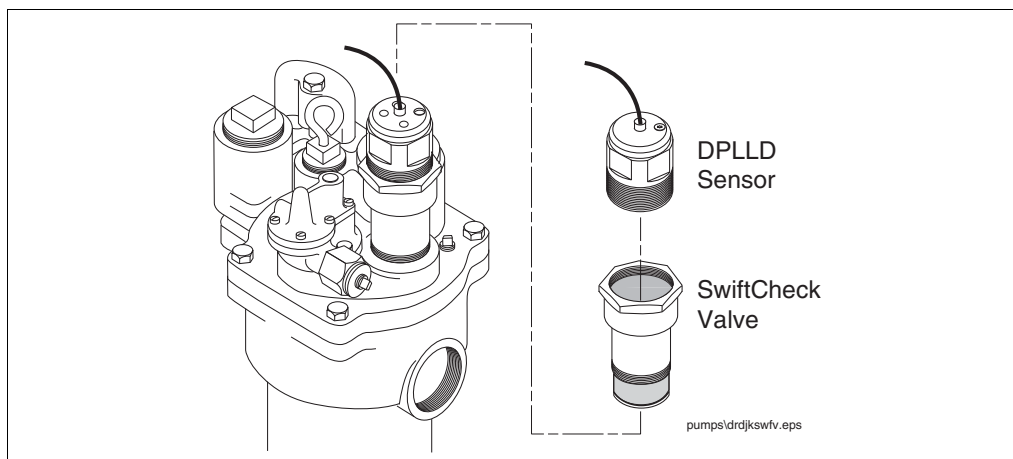
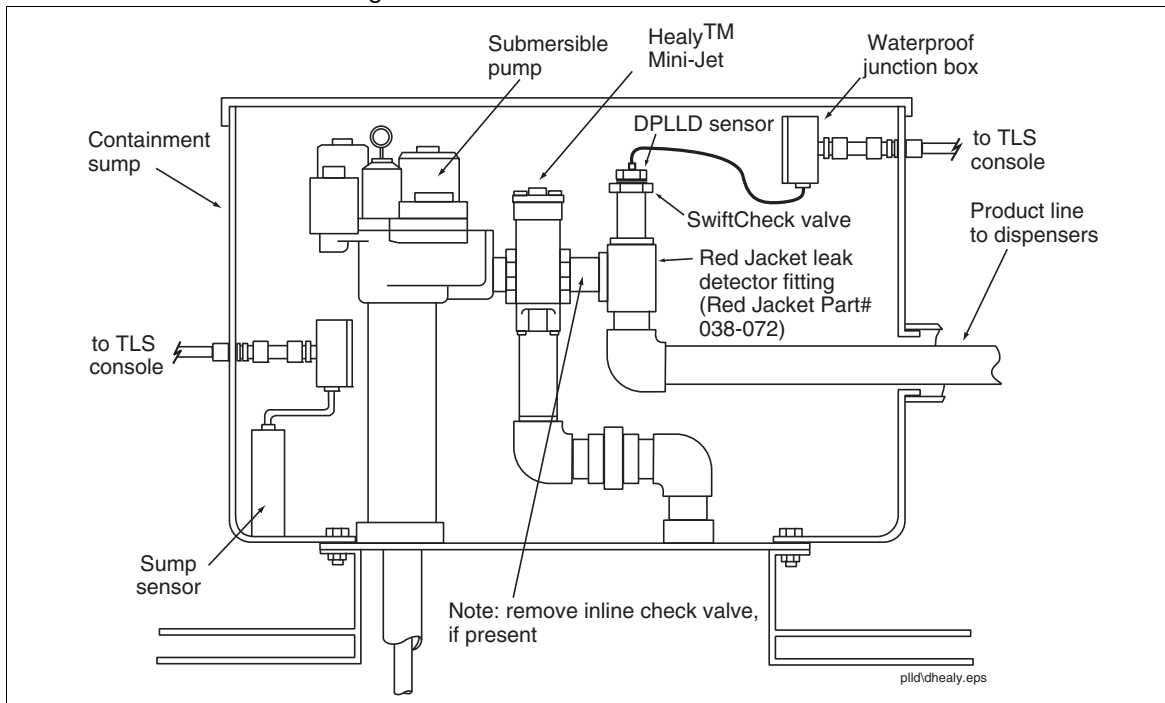

Figure 4. DPLLD transducer installation
Figure 5. DPLLD install w/Healy Mini-Jet system (required dielectric union and shutoff valve not shown)
6. If there is a Stage II vapor recovery device installed, go to Step 7. If there is no Stage II vapor recovery, install the SwiftCheck valve [Figure 4] in the mechanical LLD pump port. Thread the DPLLD transducer into the SwiftCheck Valve.
7. If there is a Stage II vapor recovery device installed in the pressurized piping you must install the SwiftCheck valve into a Red Jacket leak detector fitting (P/N 038-072) as shown in Figure 5 instead of in the pump's leak detector port. Because the DPLLD transducer must be installed downstream from these devices, a monitored containment sump is required.
8. Thread the DPLLD transducer into the SwiftCheck valve (ref. Figure 4 or Figure 5 as appropriate).
4. Thread the DPLLD transducer into the LLD port (Figure 5).
Lubricate the external o-ring on the SwiftCheck valve using mineral oil or other suitable lubricant and thread the valve into the Red Jacket leak detector fitting (P/N 038-072) as shown in Figure 5 on page 10 instead of in the pump's leak detector port. Next thread the DPLLD transducer into the SwiftCheck valve.
4. If the pump does have a Stage II vapor recovery device installed in the pressurized piping, lubricate the external o-ring on the SwiftCheck valve using mineral oil or other suitable lubricant and thread the valve into the Red Jacket leak detector fitting (P/N 038-072) as shown in Figure 5 on page 10 instead of in the pump's leak detector port. Next thread the DPLLD transducer into the SwiftCheck valve.